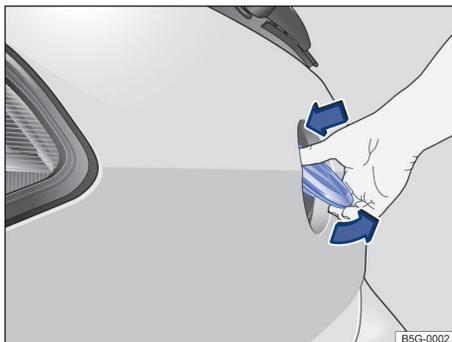

Fig. 59 Opening the trunk lid from the outside.
- To open the trunk lid, press the top of the Volkswagen emblem with your thumb → fig. 59 and move the top of the emblem down. Then grasp the bottom part of the emblem and pull upward to lift the trunk lid.